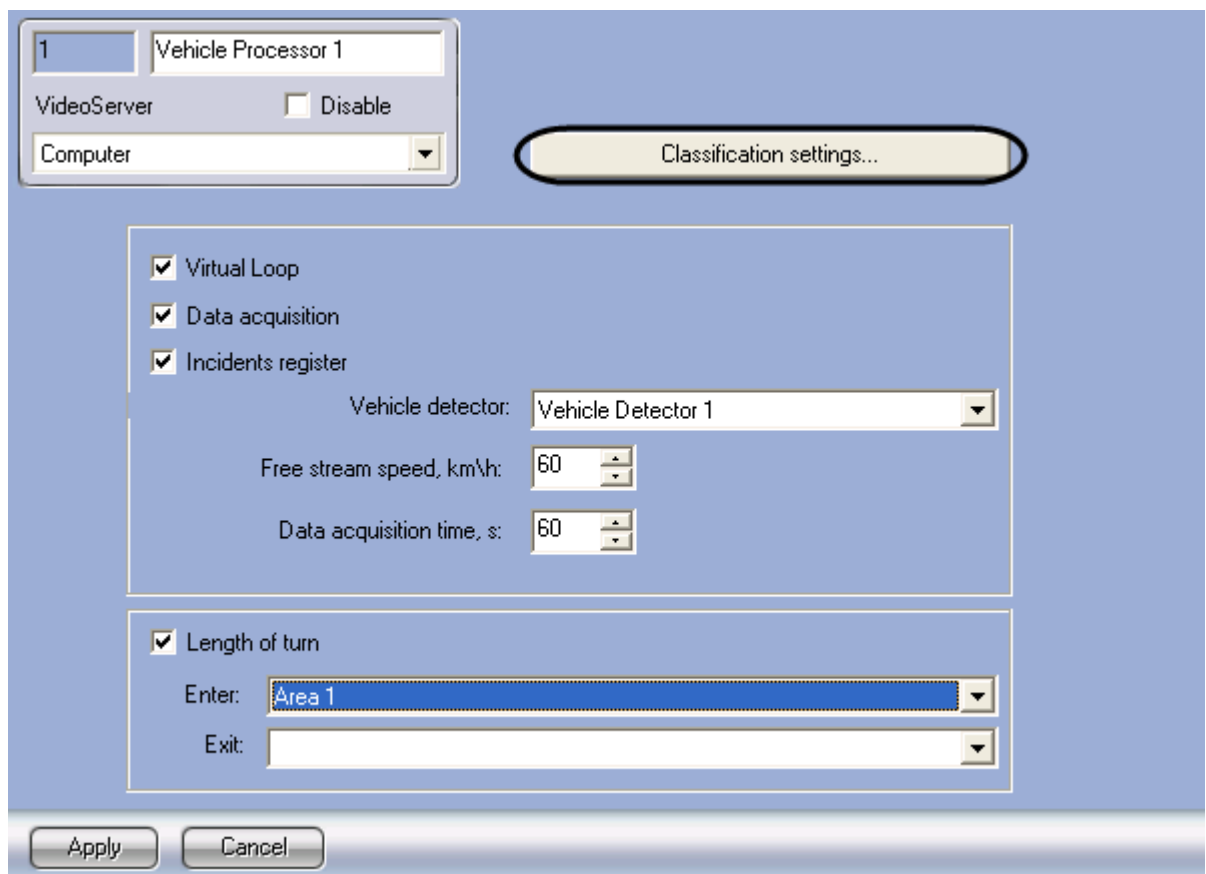

Fig. 7.6-12 Access to Classification settings
1. Go to the Vehicle processor settings panel (Fig. 7.6-12).
2. Click the Clarify settings button (Fig. 7.6-12).